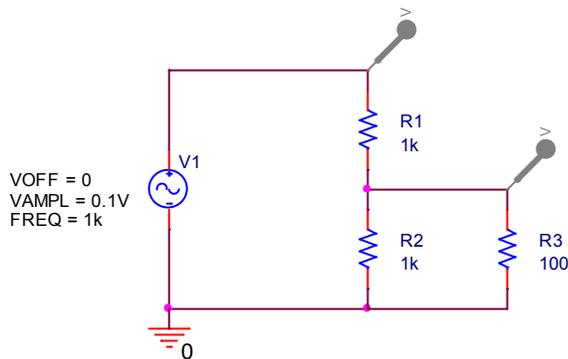

Figure B-2.
- Begin by creating the circuit pictured in Figure B-2 below in PSpice.